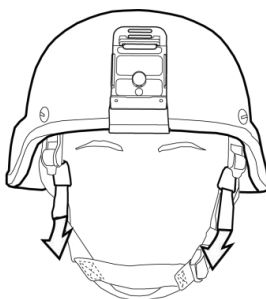
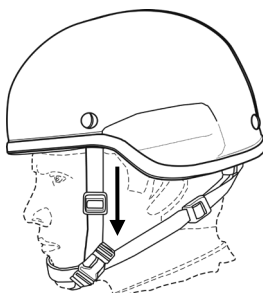

Figure 6. Tighten Front Adjustment Straps (Universal H-Back Retention Systems).
Figure 7. Tighten Front Adjustment Straps (Improved H-Nape Retention Systems).
7. For helmets with Universal H-Back retention systems, partially tighten the two front adjustment straps (Figure 6) one side at a time. For helmets with the Improved H-Nape retention system, partially tighten the two front retention straps (Figure 7) one side at a time.